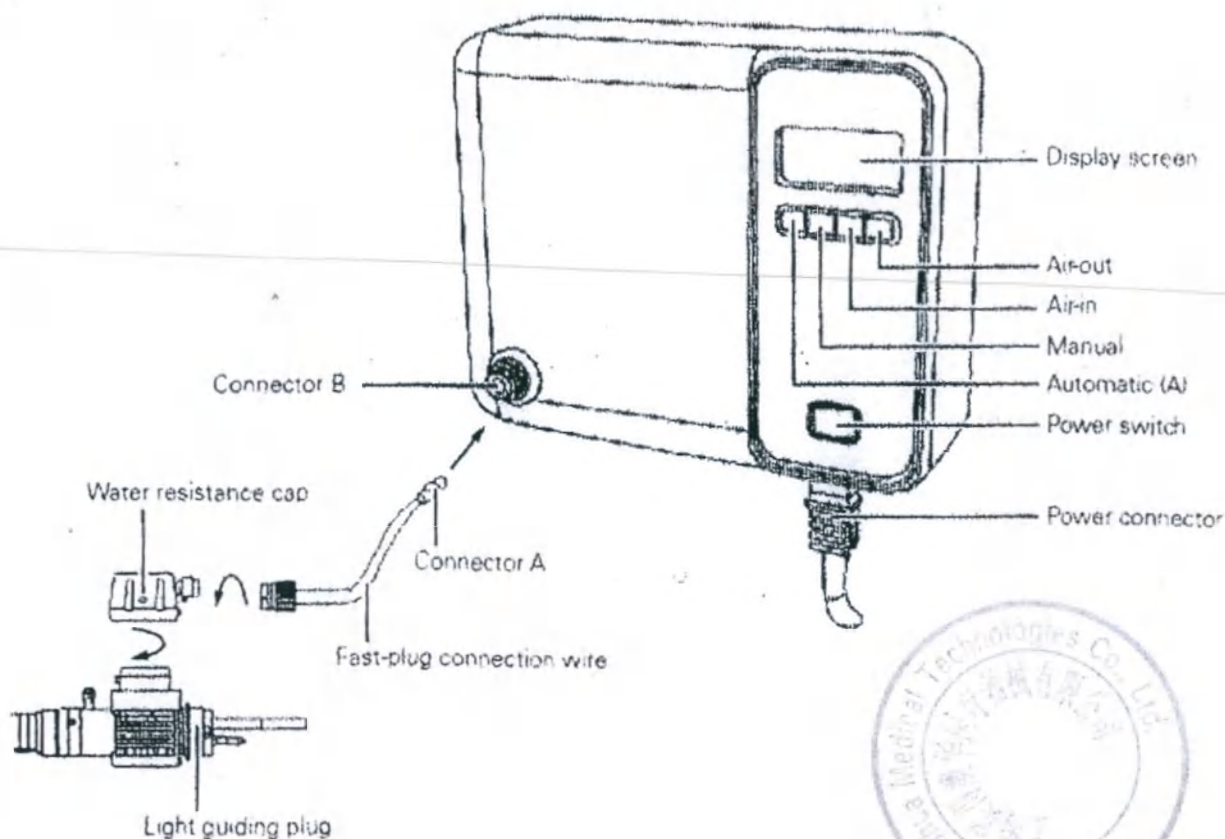

Рис. 4.
- Connect the sealed endoscope cover to the quick-clamping connector. Then connect the line connector to the output interface of the device (see Fig. 4). All connections must be sealed to avoid airleakage.